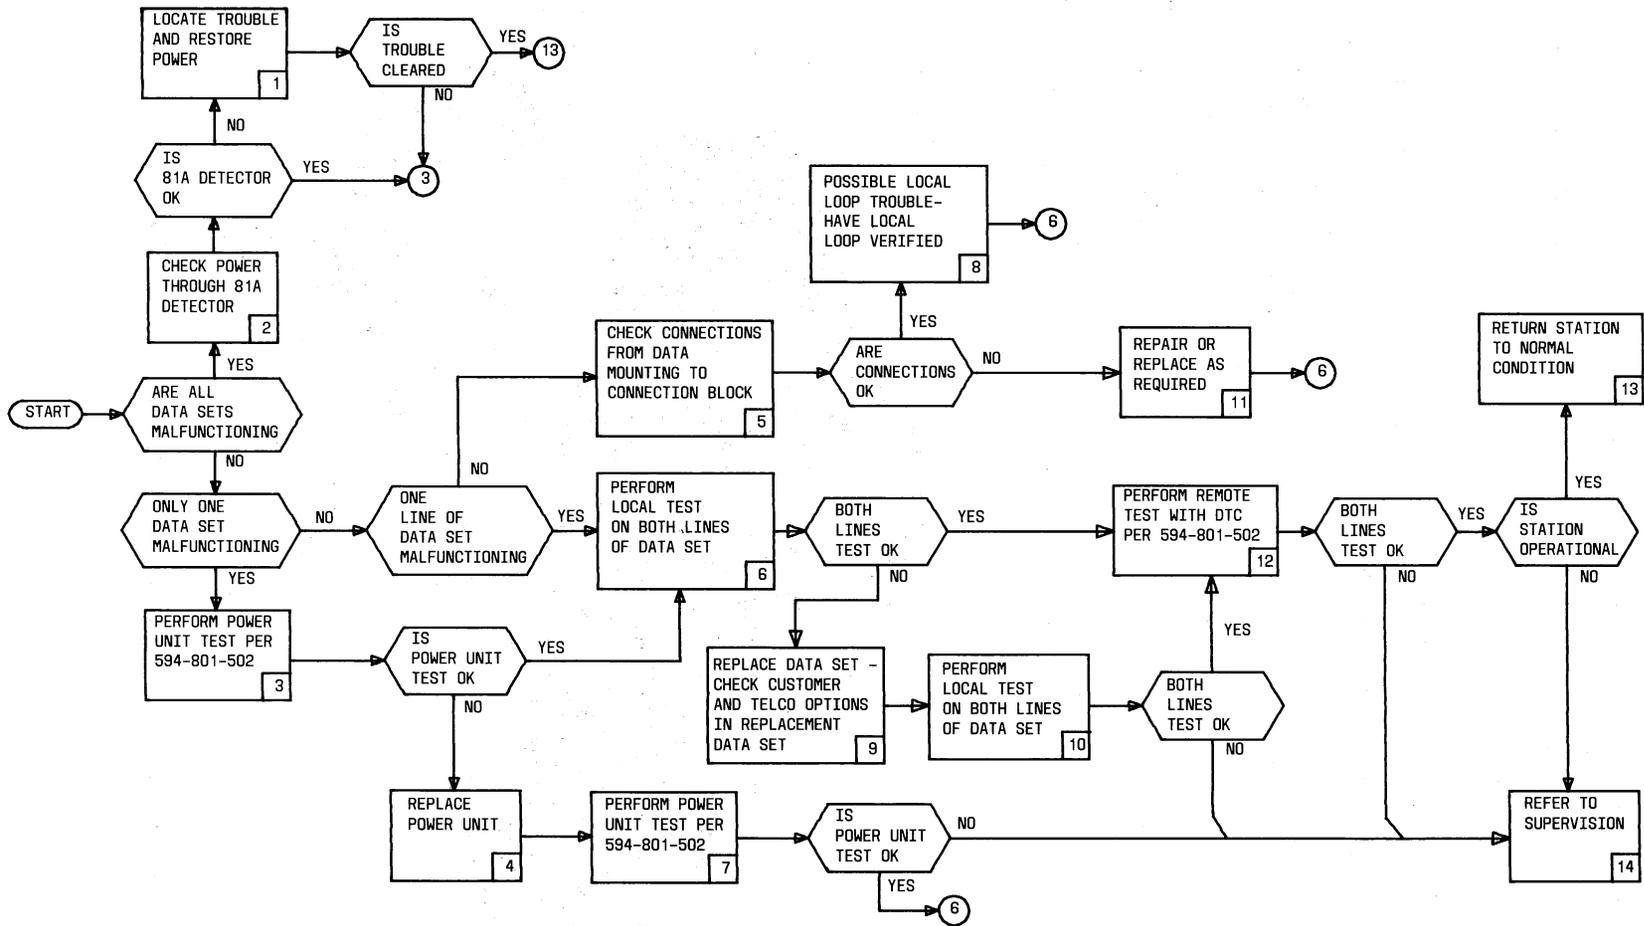

Fig. 2—Troubleshooting Flowchart for 407CR Multiple Data Station
4.01 Troubleshooting the 407CR-type multiple data station should be in accordance with the flowchart shown in Fig. 2. The flowchart is a recommended procedure to follow when investigating system trouble. The information blocks in the flowchart are numbered to provide easy reference. The diamond represents a decision to be made, while the circles provide a means of referring to another numbered information block in the flowchart.